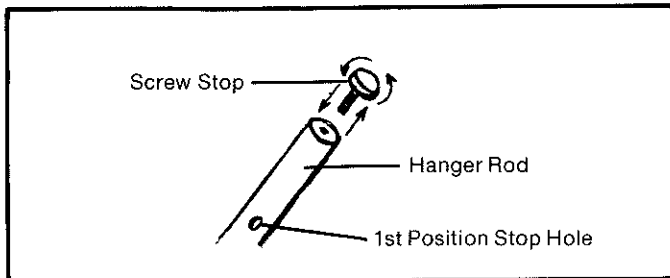

Figure 2-5
1. Unscrew screw stop from support bar rod, Figure 2-5, and set it aside.